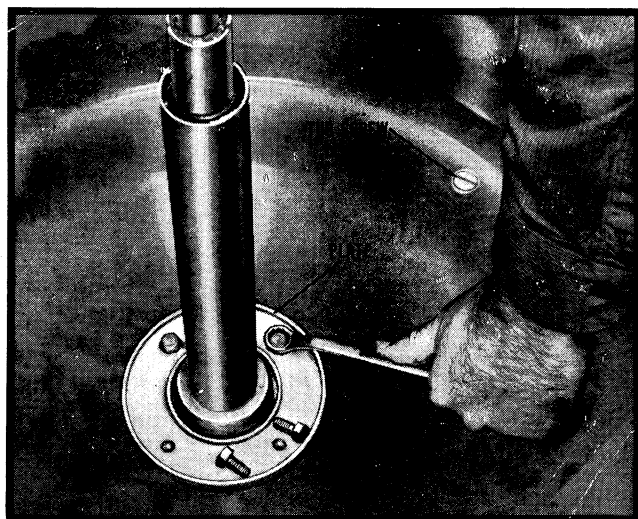

Figure 146
- B. Remove water baffles and screws from tub bottom and lift tub out of cabinet. On machines equipped with the flat bottom tub it will also be necessary to remove the center post plate, *Figure 146*.